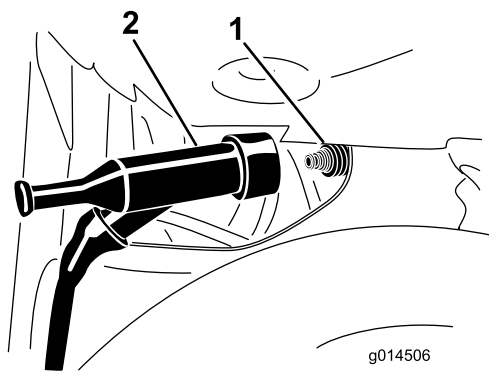

Figure 37
2. Pull the spark-plug wire off the terminal of the spark plug (Figure 37).
4. Push the spark-plug wire onto the terminal of the spark plug (Figure 37).